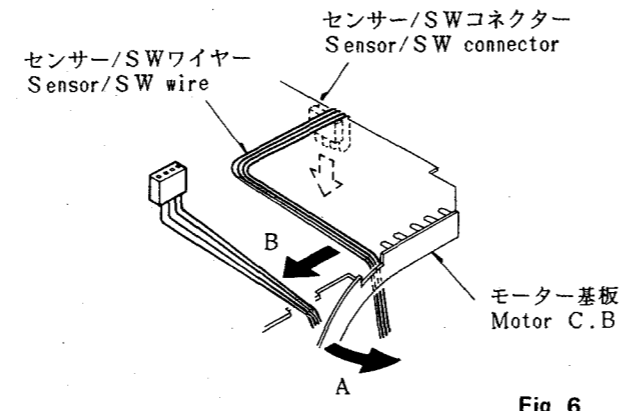

Fig. 6
- 2) Disconnect the connector for the sensor/SW wire. (See Figure. 6)
- 3) Bend the motor circuit board slightly in the direction of arrow A and move the sensor/SW wire in the direction of arrow B to remove the connector from the board. (See Figure. 6)